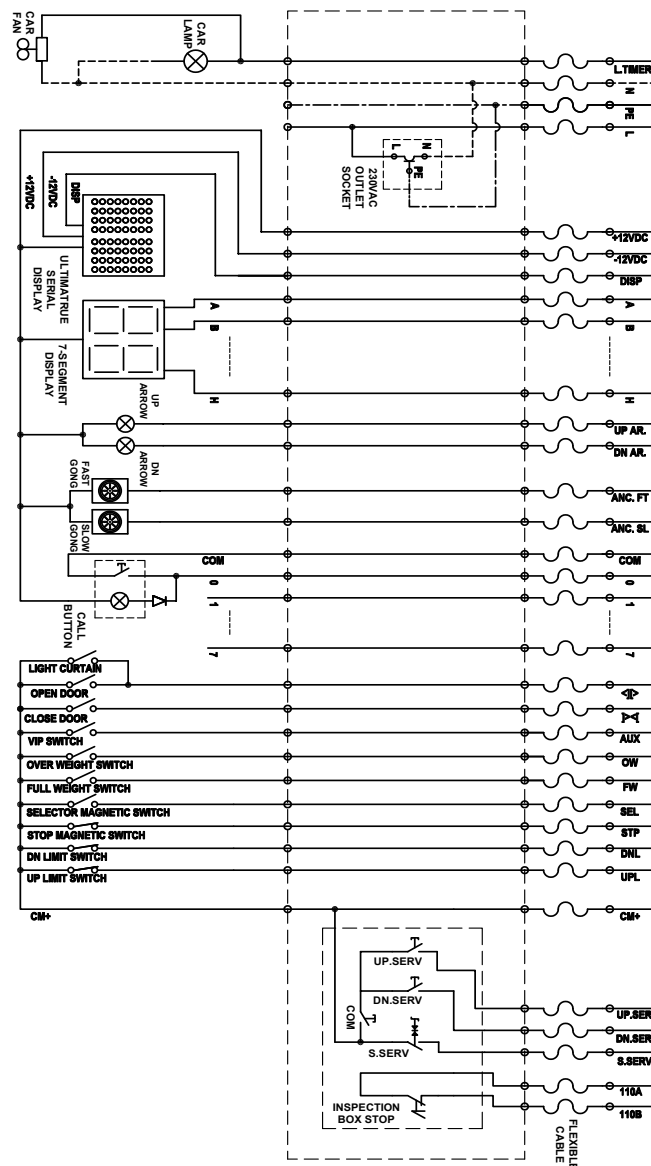

Figure 19.0 - Car Connections
The terminals of the Car are connected as illustrated in Figure 19.0.
- Figure 19.0 illustrates the connection of the traveling cable terminals between the main control panel and the car for calls, indicators, inspection box, etc.